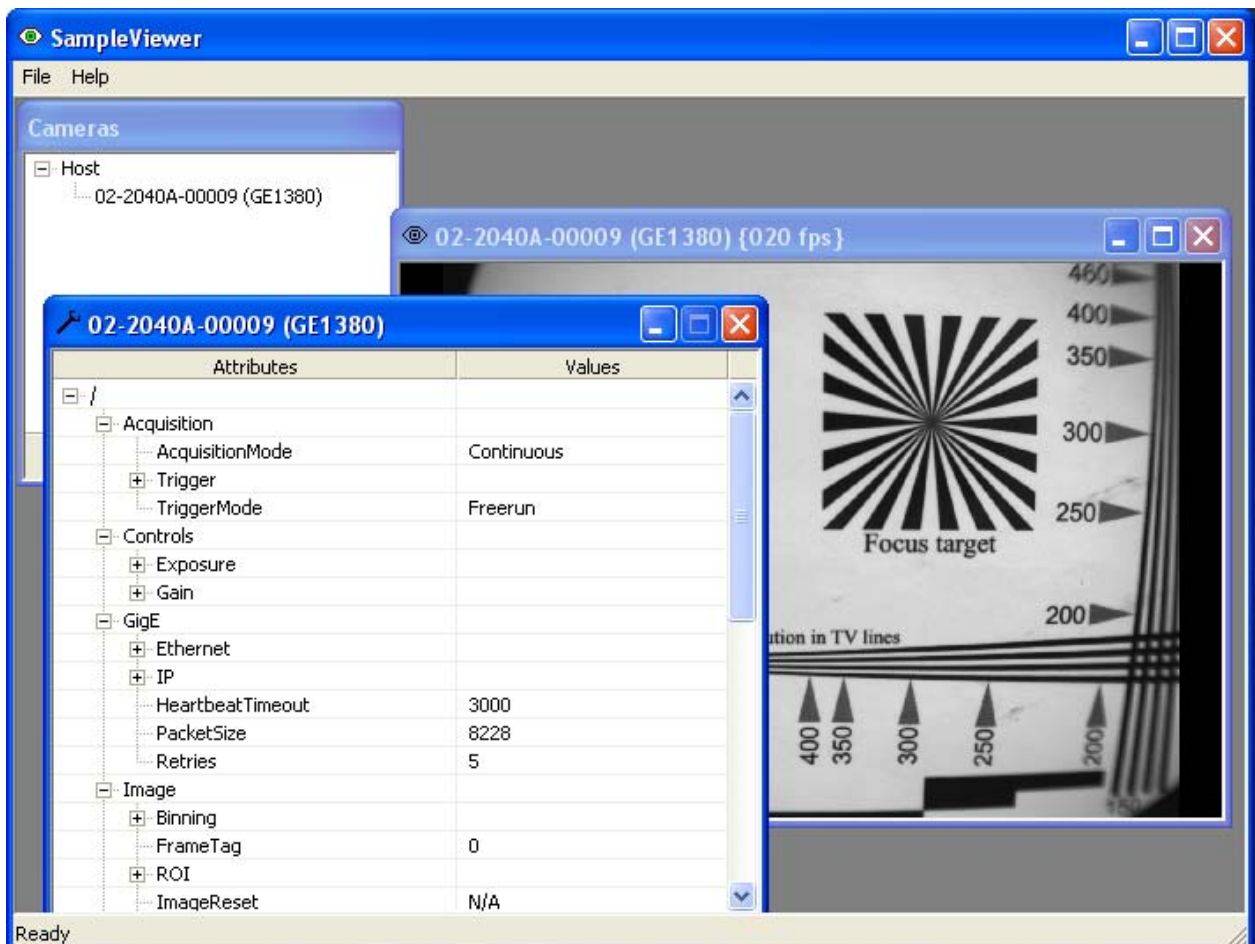

Figure 7. GigE Viewer application window.
- See Figure 7. Select the *wrench* icon to change camera settings. Change the PacketSize to a value of 1500. Select the *eye* icon to image. The camera should now be imaging. If the camera is not imaging, see the Trouble Shooting section of this document. Note that the PacketSize can be set to 8228 if the network card has been optimized to support jumbo frames.